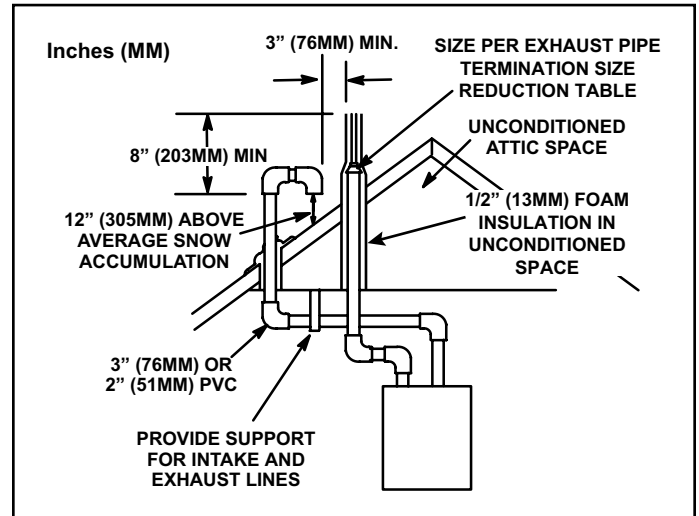

**Figure 30. Exiting Exhaust and Intake Vent
1. Intake and exhaust terminations are not required to be in the same pressure zone. You may exit the intake on one side of the structure and the exhaust on another side (Figure 29). You may exit the exhaust out the roof and the intake out the side of the structure (Figure 30).